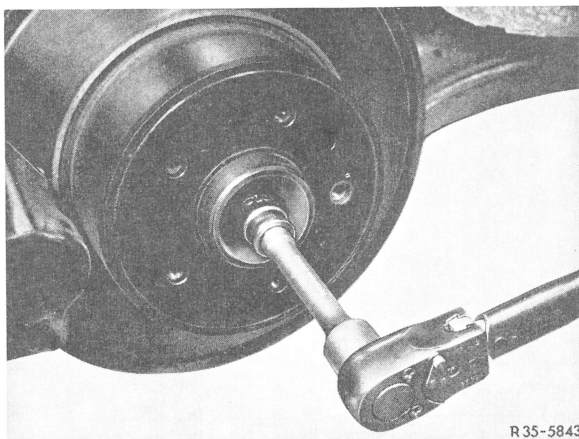

Fig. 1
- 3 Unscrew hex. bolt for attaching rear axle shaft to rear axle shaft flange (Fig. 1).